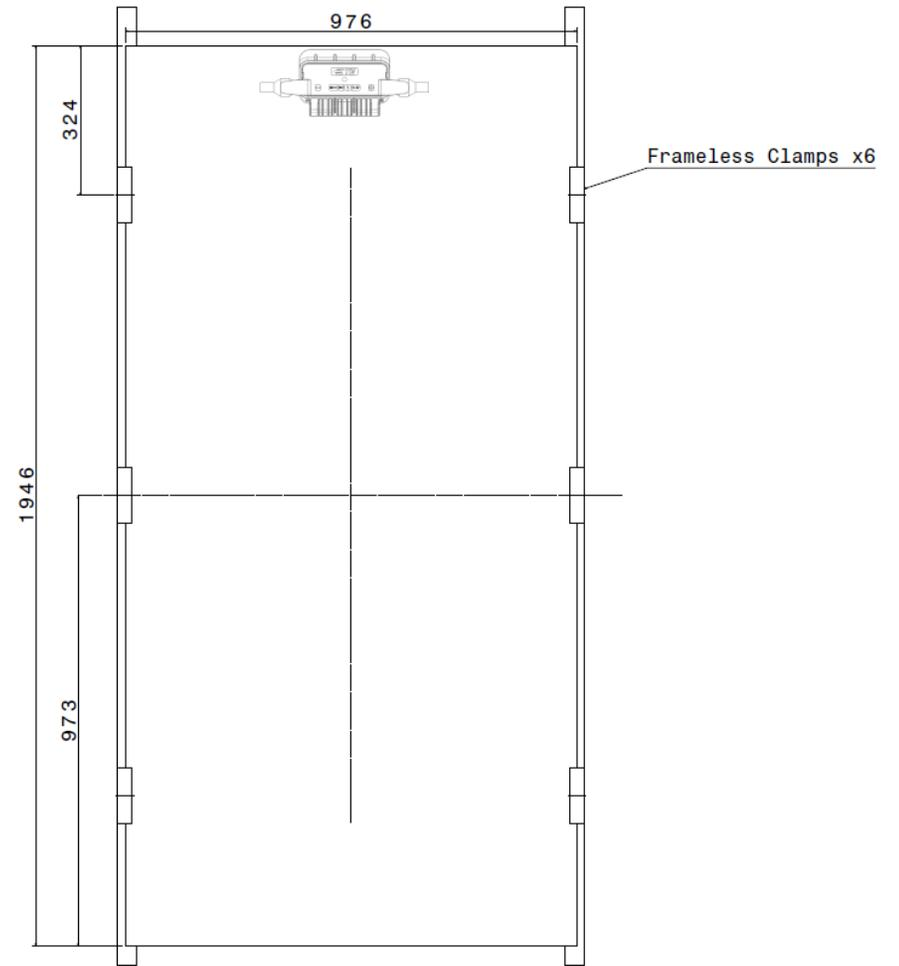

Figure 2
- For flat and horizontal commercial rooftop applications, the modules must be mounted using the rails and clamps configuration provided by Schletter Inc. and approved by Sunpreme. This includes tilted modules, rails running parallel to the module long edge, and clamps mounted at six (6) locations as shown in Figure 2. Please contact Sunpreme for mechanical design details and BOM.